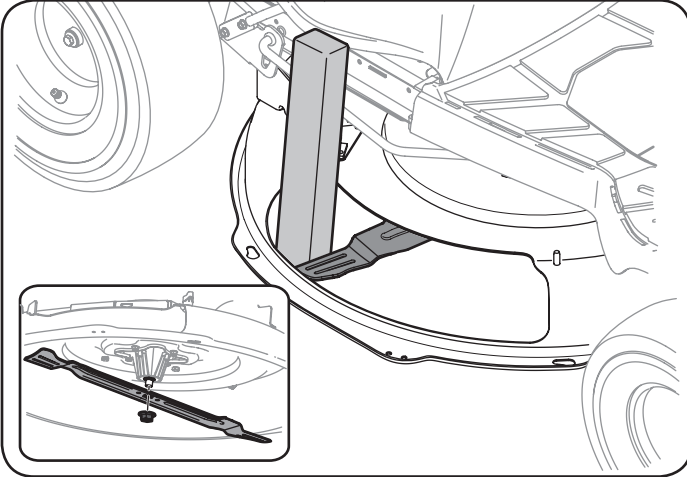

Figure 21
2. Using a block of wood or 2 x 4, insert it into the deck opening and rotate the blade around until it wedges the wood between the deck opening and the cutting blade, as shown in "Figure 21".
3. Remove the hex flange nut that secures the blade to the spindle assembly, and remove the blade. See the Inset of "Figure 21".